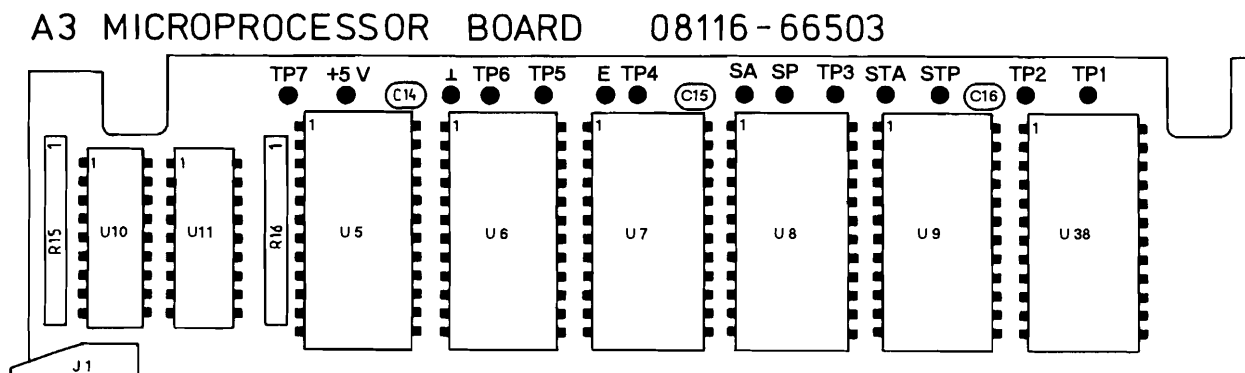

Figure B-3. 08116-66503: U10, U11 layout
2. Figure B-3 shows the location of the RAMs U10 and U11 on the microprocessor board 08116-66503. Modify Figure 10.7-9 accordingly.